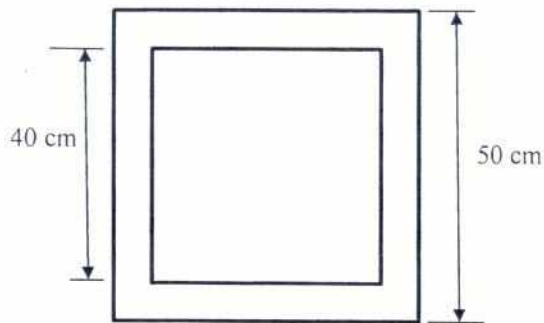

Figure 3a
- (b) Determine the shortest length for a steel column, fixed at both ends, of cross-section  $75 \text{ mm} \times 48 \text{ mm}$  using Euler's formula. Take critical stress value as 220 MPa and  $E = 205 \text{ GPa}$ . (8)
- Q3 (a) The square cross section of beam as shown in **Figure 3a**. The beam section is subjected to a shear force of 200 kN. Determine the shear stress distribution across the depth of the section. (10)